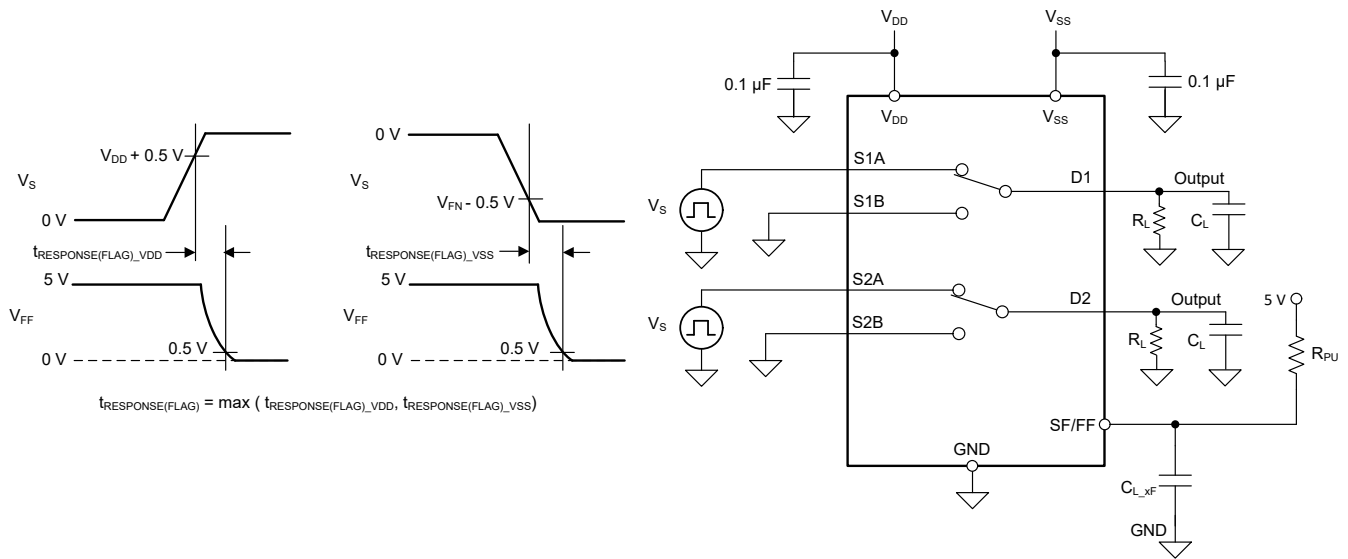

Figure 7-11. Fault Flag Response Time Measurement Setup
Fault flag response time ( $t_{RESPONSE(FLAG)}$ ) measures the delay between the source voltage exceeding the fault supply voltage ( $V_{DD}$  or  $V_{SS}$ ) by 0.5 V and the general fault flag (FF) pin to go below 10% of its original value. Figure 7-11 shows the setup used to measure  $t_{RESPONSE(FLAG)}$ .